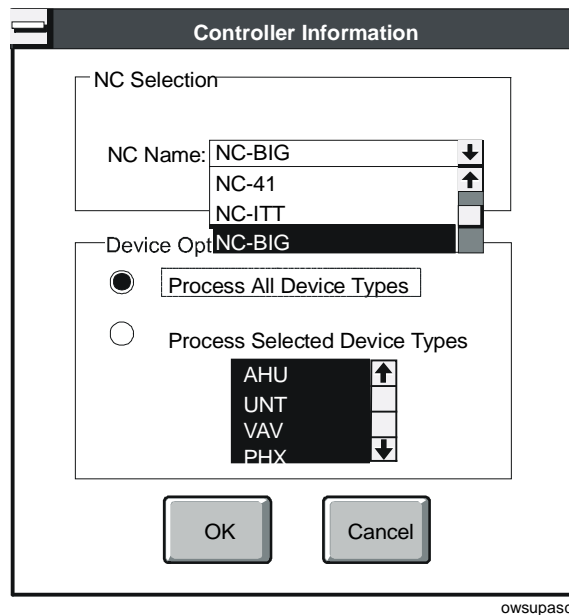

Figure 16-8: OWS - Upgrade Multiple Controllers Dialog Box
4. Click OK or press Enter to display the dialog box in Figure 16-8.